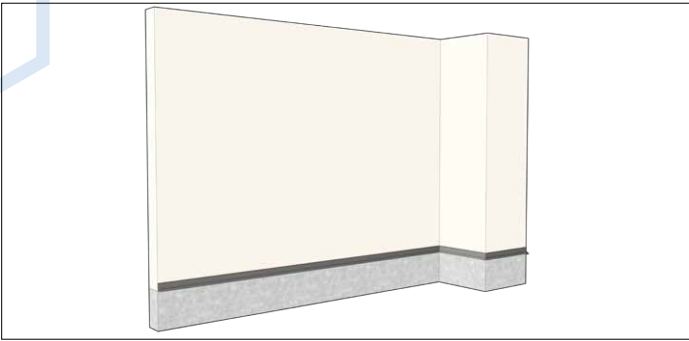

Figure 16.1
1. Confirm grid line layout as per final project (approved) drawing. (Figure 16.1)